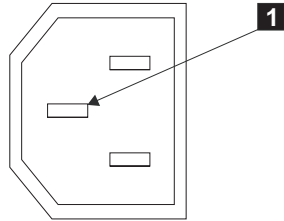

Figure 4. Ground pin
6. Check for continuity between the frame of the SAN Volume Controller and the ground pin of each main power connector. The ground pin is shown as **1** in Figure 4.